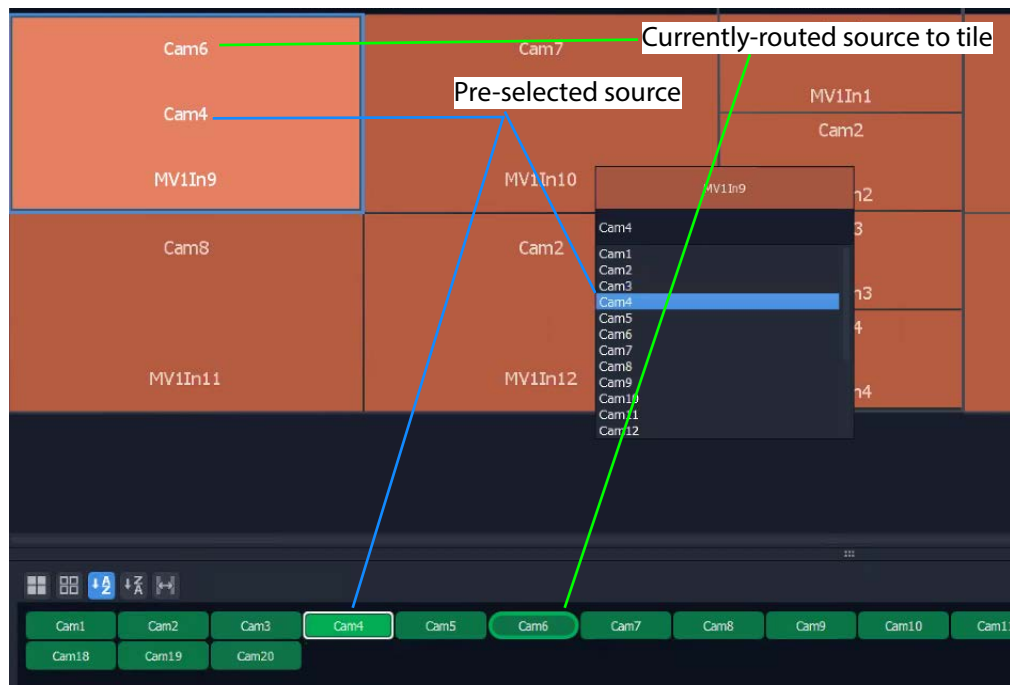

Fig. 16-81: Select Source
- 3 To pre-select a source to be routed and make the route (see Figure 16-81), either: